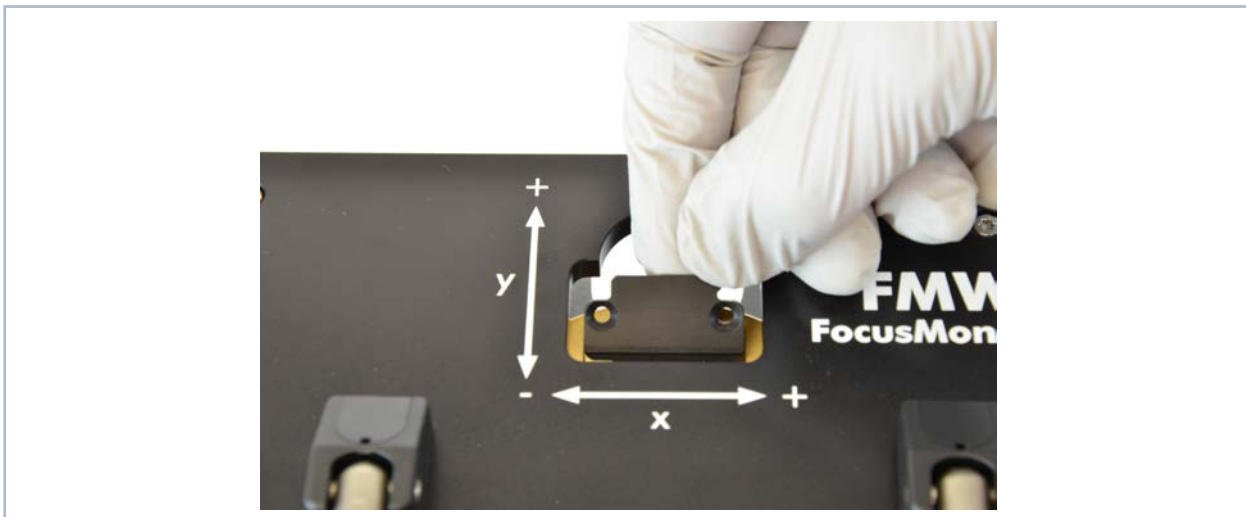

Fig. 5.4: Inserting the retaining plate
2. Turn the drive wheel (see Fig. 5.4) clockwise until the disc extends approx. 15 mm into the measuring window in a positive y-direction.
6. Insert the retaining plate in the disc with the guidance groove pointing upwards and an angle of 45 degrees and press it downwards into the opening (see Fig. 5.4).